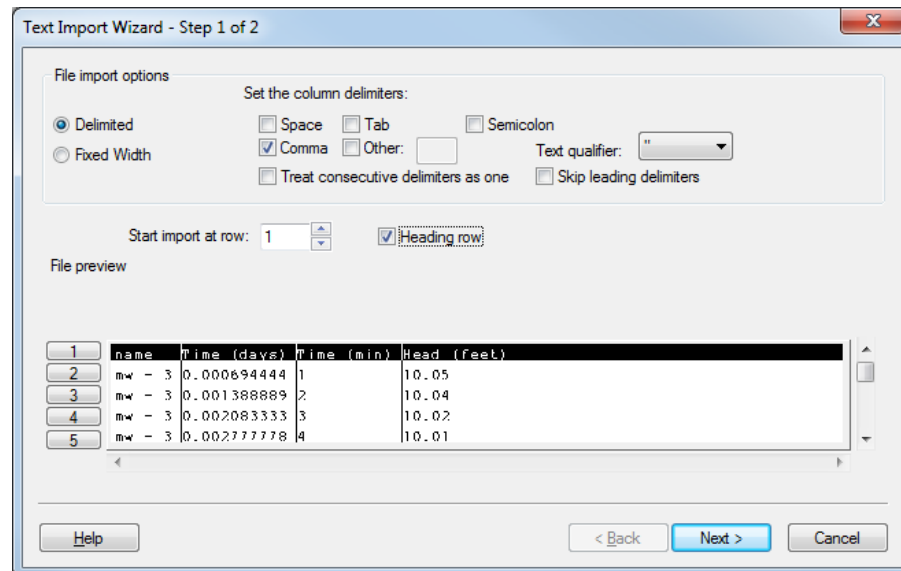

Figure 6 Text Import Wizard with Heading row checked
3. Select “obs\_wells\_trans.csv” and click **Open** to exit the *Open* dialog and bring up the *Step 1 of 2* page of the *Text Import Wizard* dialog (Figure 6).